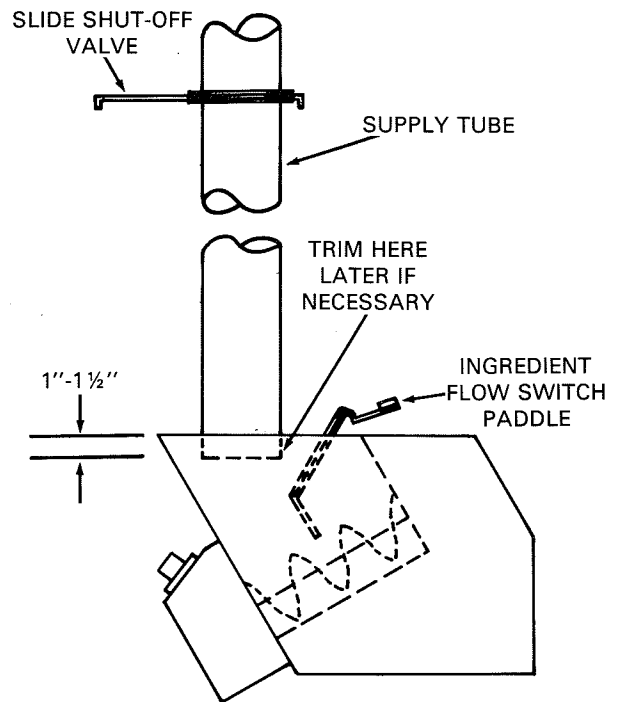

FIGURE 3
2. The length of gravity supply tubes is critical. If the tubes are too long, the ingredient flow switch paddles will not function properly. If the supply tubes are too short, ingredient spillage will occur. The best procedure is to extend supply tubes about 1"-1½" below the entrance to the metering auger compartments. Later, the supply tubes can be trimmed further, if necessary, to obtain optimum operation of the switch paddles, Figure 3.